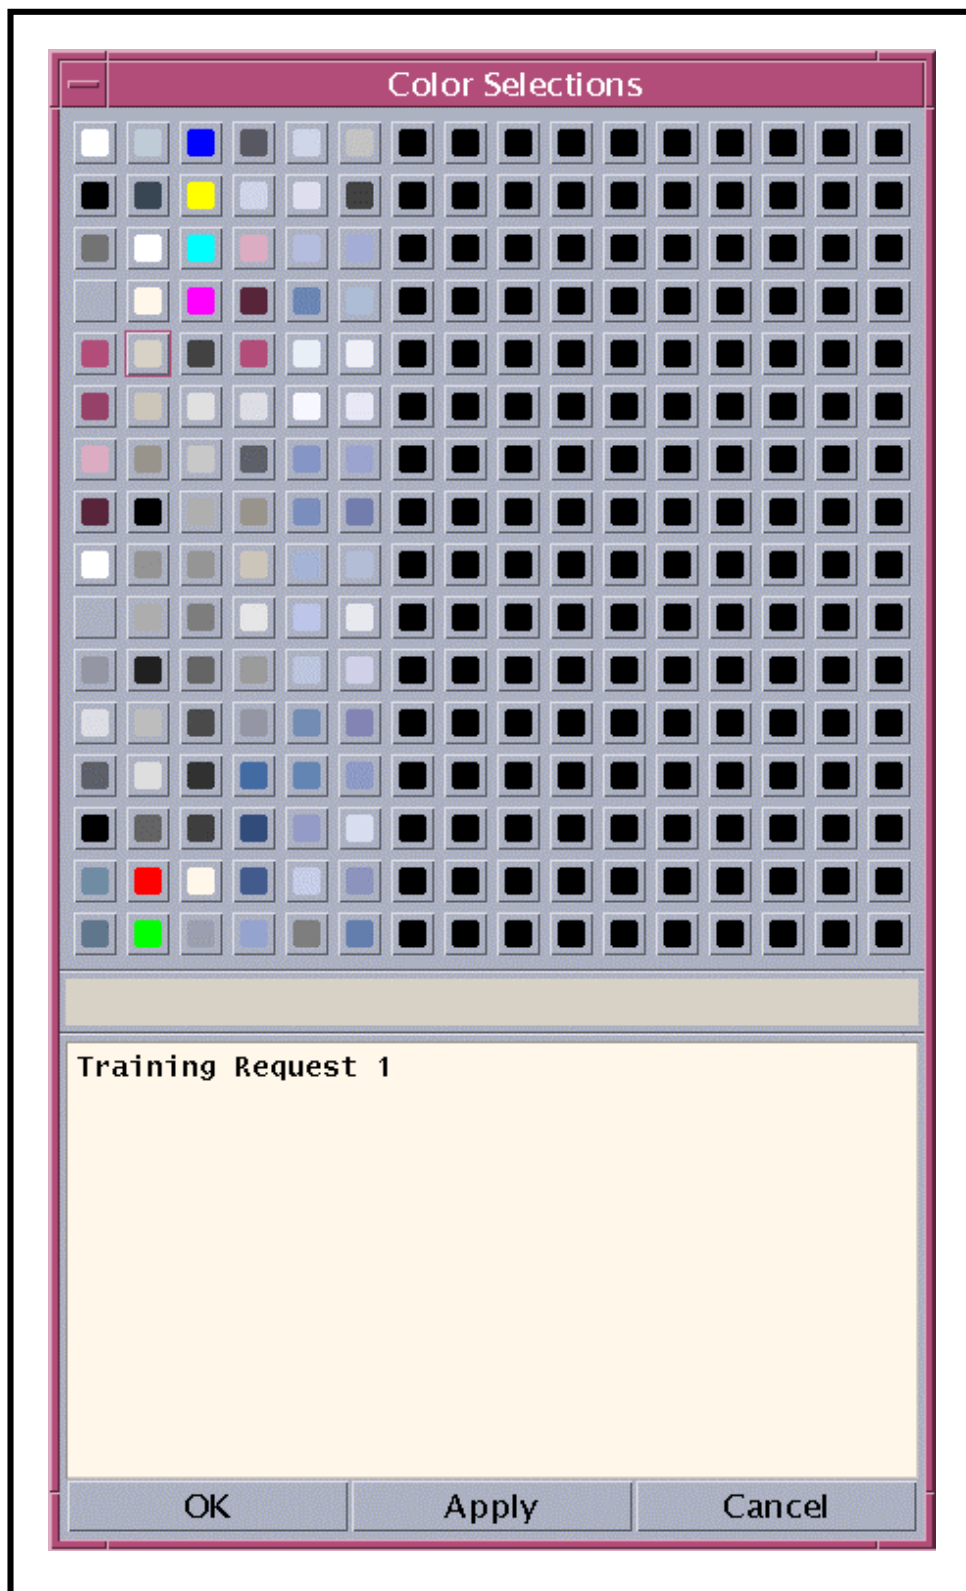

Figure 24. Color Selections Window
- The **Color Selections** window (Figure 24) is displayed.